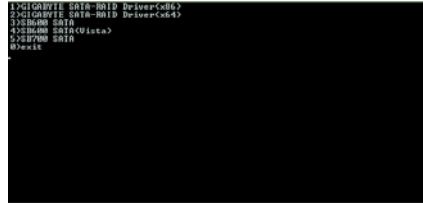
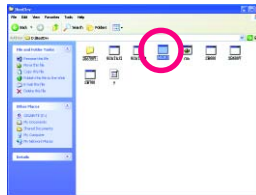

Figure 2
Figure 3
Step 2: When the controller menu (Figure 2) appears, remove the startup disk and insert the blank formatted disk. Select the controller driver by pressing the corresponding letter from the menu. For example, from the menu in Figure 2, to install Windows XP to your RAID/AHCI hard drives, select **(5) SB700 SATA** for the AMD SB700 SATA controller. Your system will then automatically zip and transfer this driver file to the floppy disk. Press <0> to exit when finished.
Use an alternative system and insert the motherboard driver disk. From your optical drive folder, double click the **MENU.exe** file in the **BootDrv** folder (Figure 3). A command prompt window will open similar to that in Figure 2.